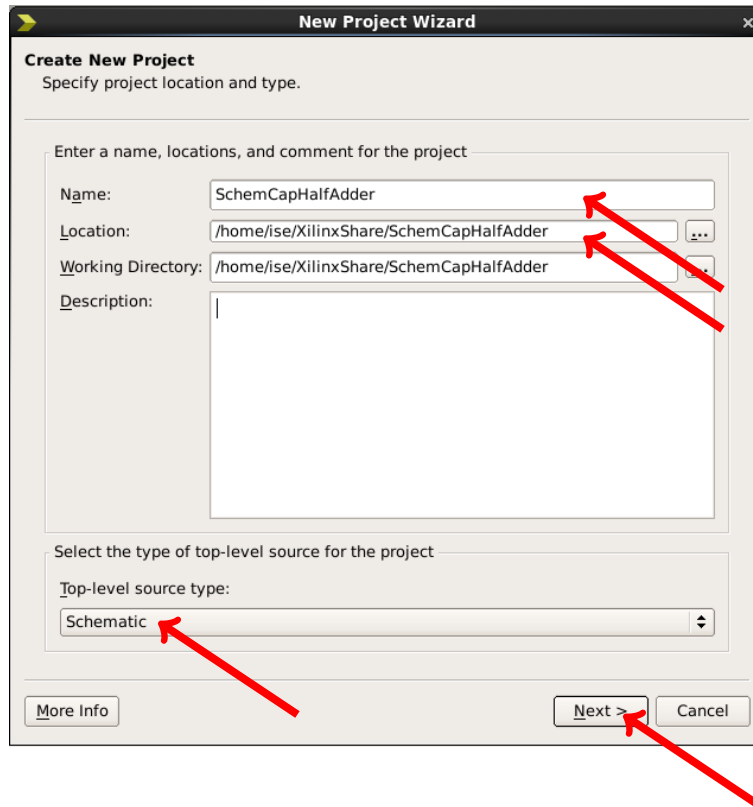

Figure 2: New Project Wizard.
3. The New Project Wizard dialog box will appear. Fill in the fields as shown in Figure 2. For the name, use “SchemCapHalfAdder”. Ensure that the top-level source type is “Schematic”.